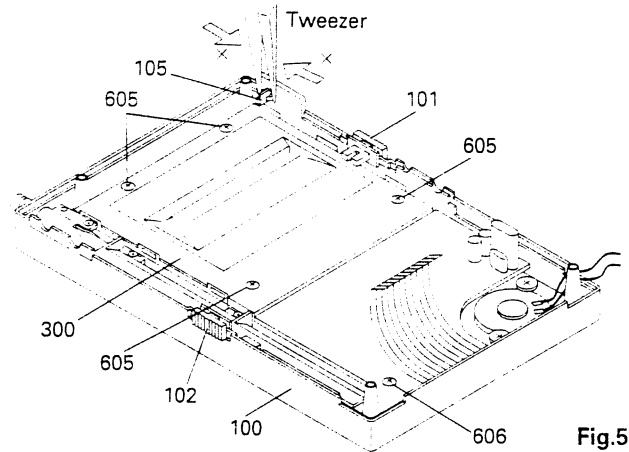
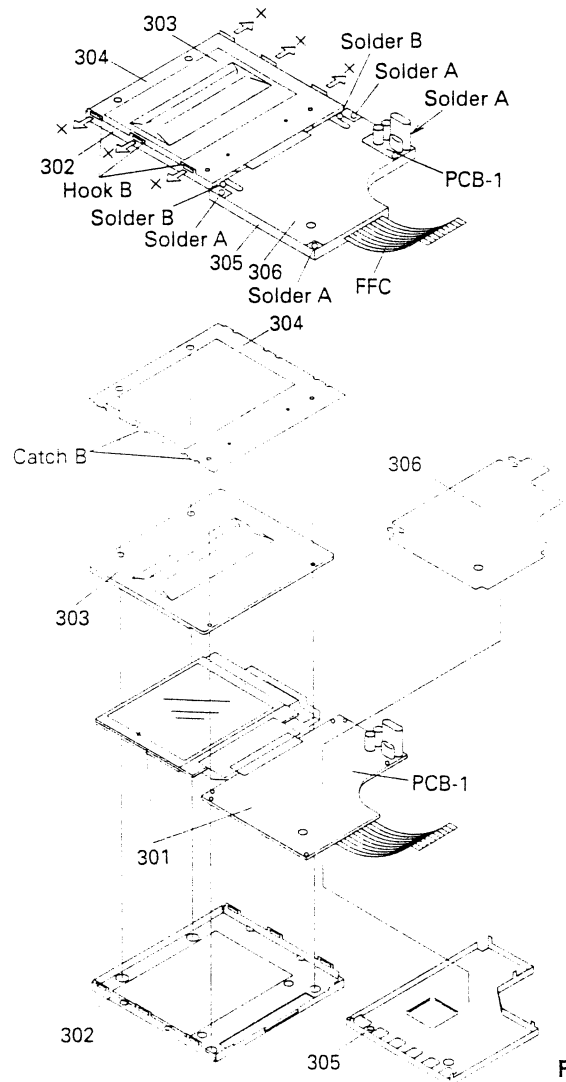

Fig.5
Fig.6
- Remove the Knob of Power SW (SW = Switch) (101) from the Front Case (100). Fig.5
- Remove the Knob of Pre-set SW (102) from the Front Case (100). Fig.5
- As illustrated in Fig.5, hold the Hook by the Tweezers. And push the Hook in the direction indicate by the arrow X.
- Remove the four screws (605) fixing the LCD Panel Ass'y (300). Fig.5
- Hold the LCD Panel Ass'y (300) and pull out the LCD Panel Ass'y (300) from the Front Case Ass'y (100).
- Take off solder to separate the points A and B jointing the Front Shilde Plate of PCB-1 (305) and the PCB-1, and jointing the Rear Shilde Plate (306) and the PCB-1. Fig.6
- Remove the Front Shilde Plate of PCB-1 (305) from the PCB-1. Fig.6
- Remove the Rear Shild Plate of PCB-1 (306) from the PCB-1. Fig.6
- Push the Hook B in the direction indicated by the arrow X in (Fig.6).
- ④ Set the Light Diffusion Plate (303) at the Location Poles A, B, C on the Front Case (100). Fig.6
- ⑤ Set the Rear Shild Plate of Panel (304) on the Front Shild Plate of Panel (302). Fig.6
- ⑥ Perform assembly by reversing the procedure outlined for disassembly.